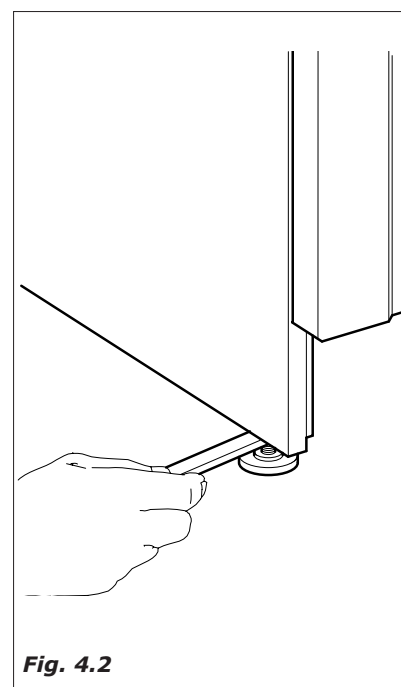

Fig. 4.2
- Position the distributor, checking the leveling by means of the adjustable feet already assembled on the machines (Fig4.2). make sure that the distributor doesn't have an inclination of more than 2 degrees.